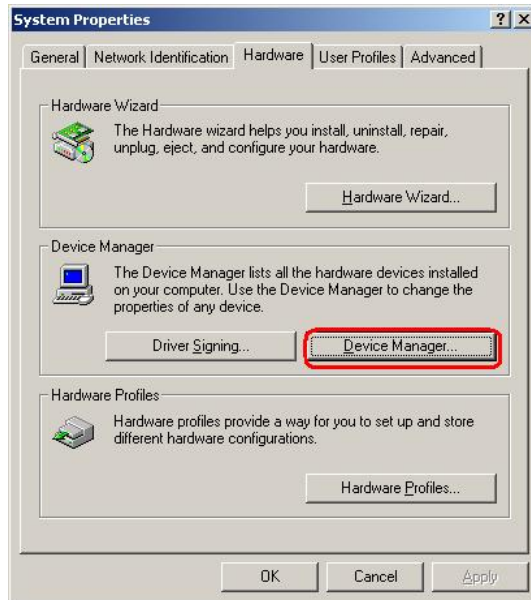

Figure 7-5: Double Click the Device Manager Tab
Step 3: Double click the **Device Manager** tab (Figure 7-5).